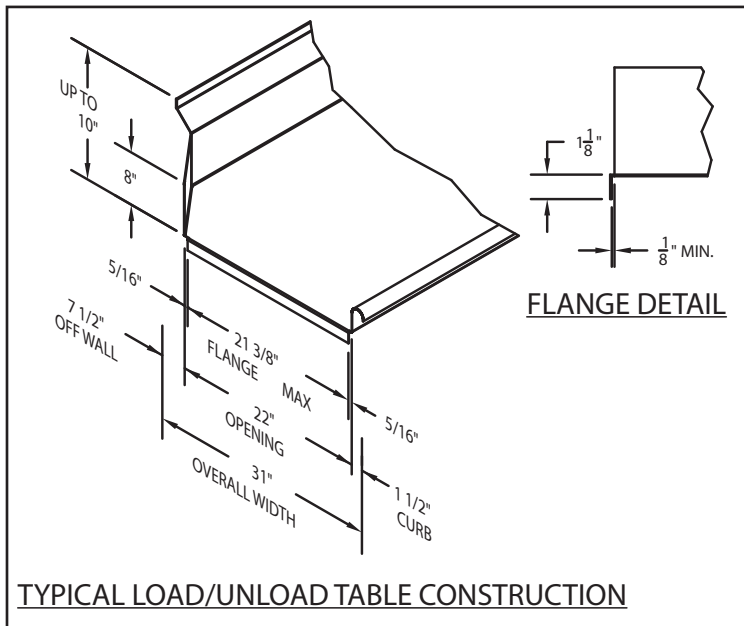

Fig. 3 - Typical table construction.
1. See Fig. 3 for typical table construction.